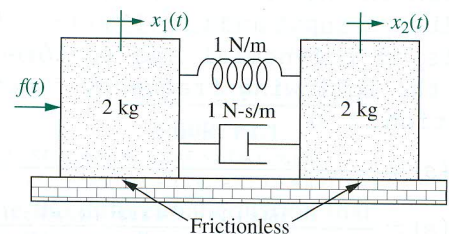

FIGURE P2.10
24. Find the transfer function,  $G(s) = X_2(s)/F(s)$ , for the translational mechanical network shown in Figure P2.10. [Section: 2.5]